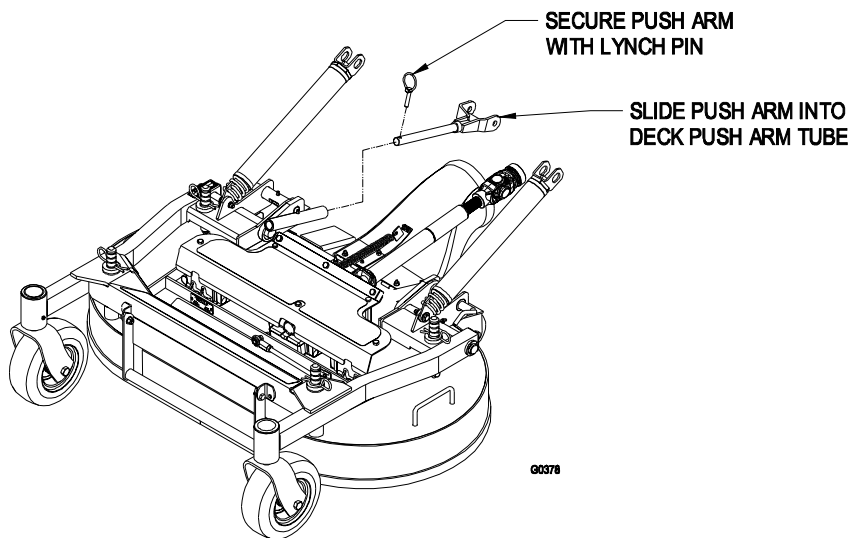

FIGURE 2
- d) Align deck push arm tubes to tractor push arms and push deck rearward. Secure push arms with lynch pins on left and right sides of the unit. See Figure 2.
- Remove lynch pins at front of push arms on both sides of the unit. See Figure 2.